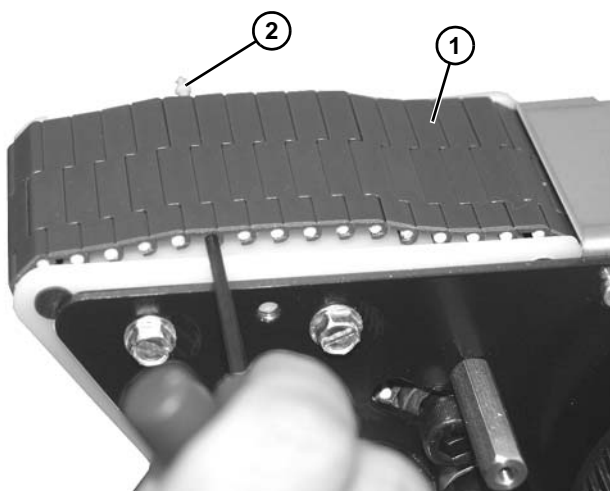

Figure 161
7. Lift slightly on belt (**Figure 161, item 1**) and push pin (**Figure 161, item 2**) out of belt.